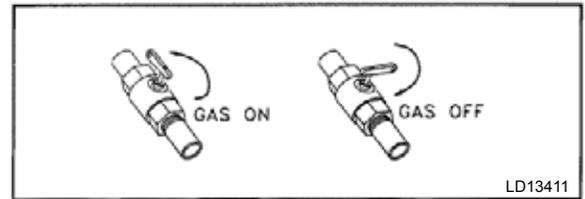

Figure 3 - Typical Furnace External Manual Gas Valve
- 3) Close (GAS OFF) the external manual gas valve (located in the gas supply pipeline, adjacent to the furnace). (Figure 3)